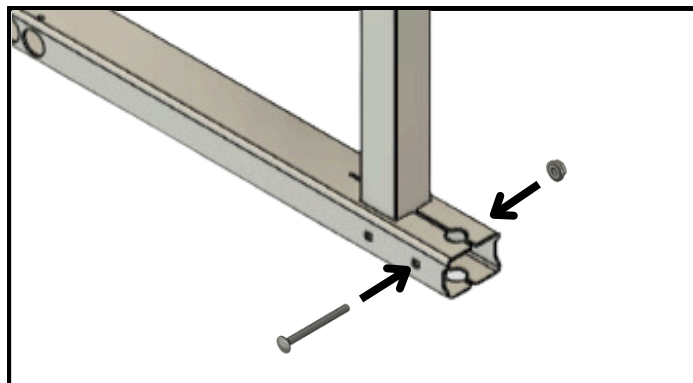

Figure 4
If not installing the IR-30 with Stakes or IR AnchorSpikes, the remaining (2) M8-1.25 x 90mm Carriage Bolts can be used to clamp the ends of the Base Tube (See *Figure 4*).